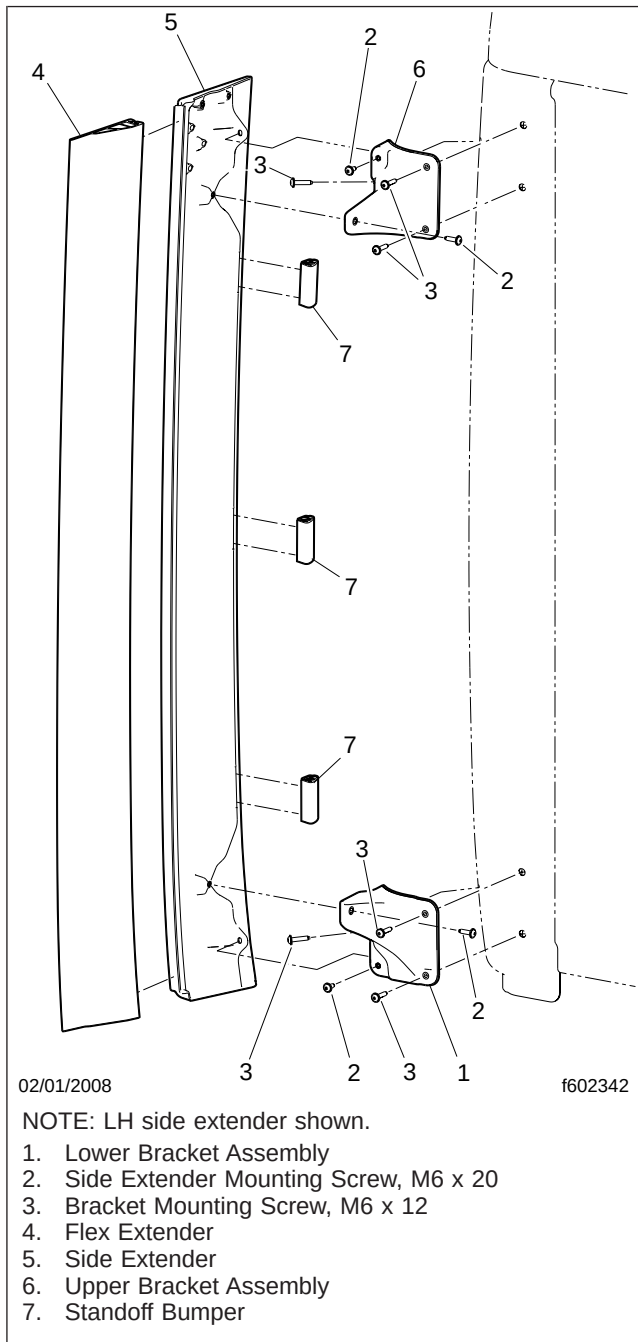
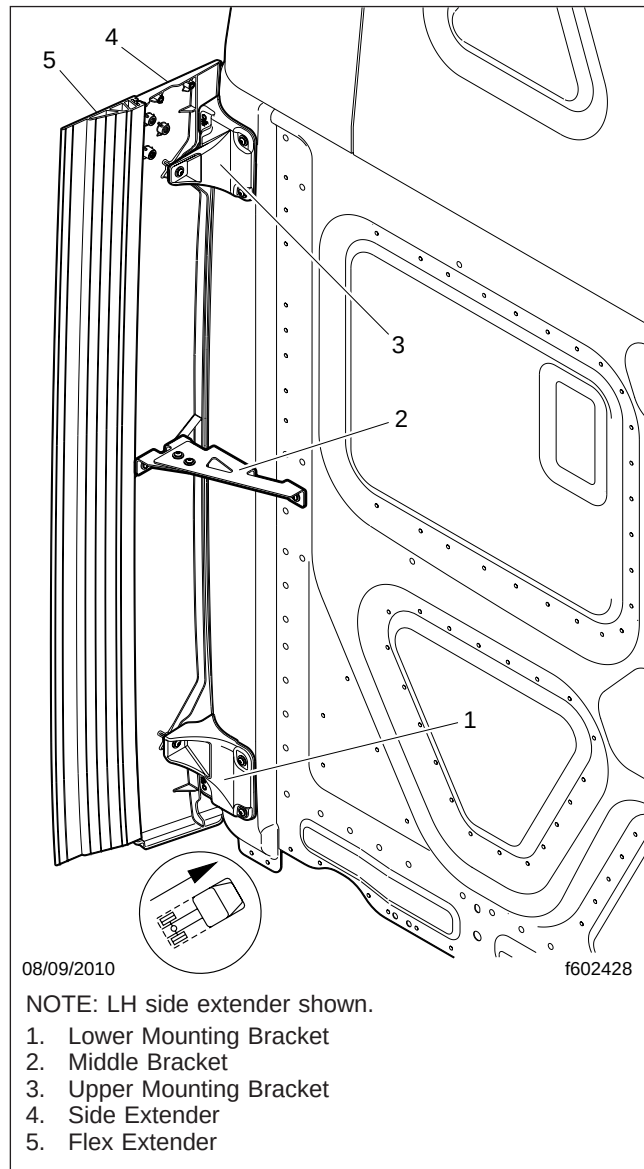

Fig. 3, Side Extender Installation (without middle bracket)
Fig. 4, Side Extender with Middle Bracket
5. Remove the M6 x 20 screws that attach the side extender to the upper and lower brackets; see Fig. 3 or Fig. 4.
1. If necessary, install the upper and lower side extender brackets on the cab, using three M6 x 12 screws; see Fig. 3 and Fig. 4. Tighten the screws 65 to 80 lbf·in (720 to 880 N·cm).